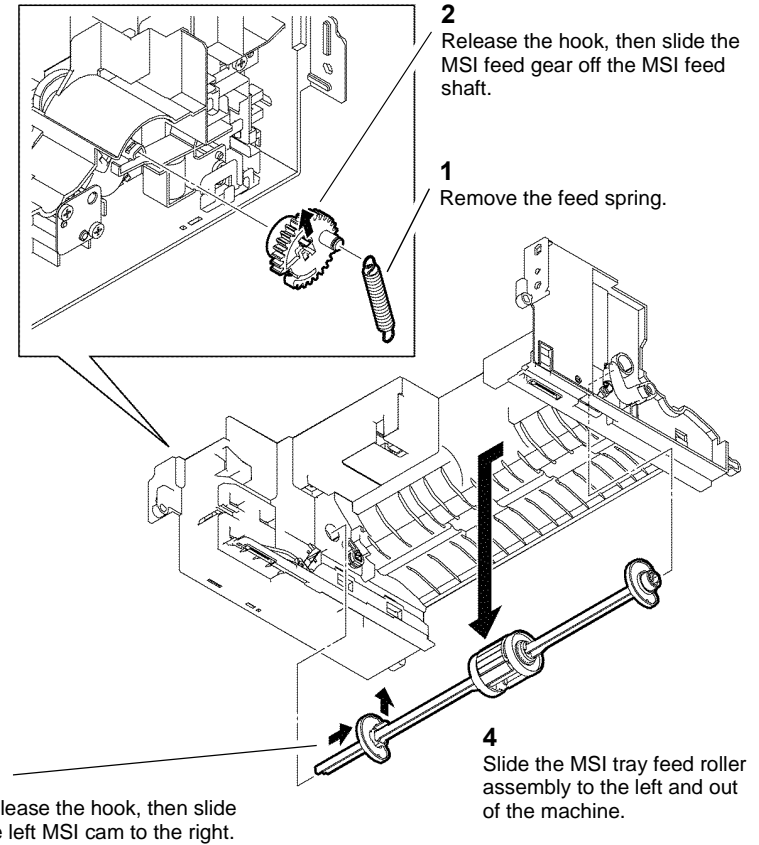

Figure 1 MSI tray feed roller assembly
2. Remove the MSI tray feed roller assembly, Figure 1.